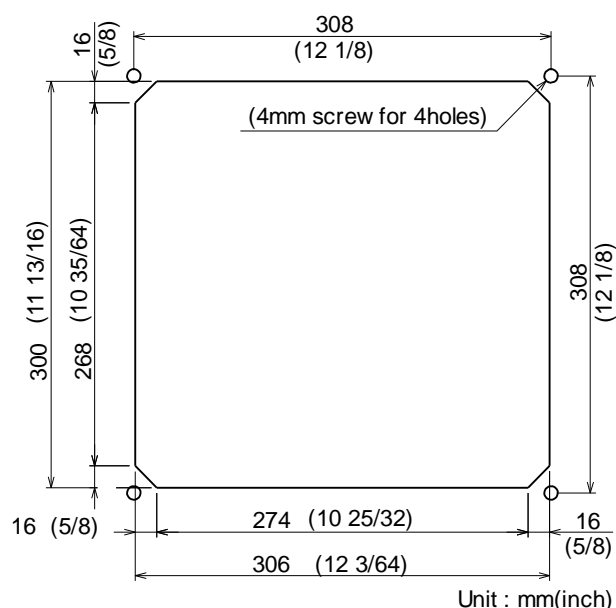

Figure 3.8 The opening and nut-holes for Display unit
- (1) Cut an opening and drill 4.5 mm (in the case of fixed nut) four nut-holes with the size shown in Figure 3.8, on the side for attachment of a Display unit on a panel.
- (2) Unscrew two knob bolts that hold the Display unit to the mounting bracket.
- (3) Remove the Display unit from the mounting platform and put it on a level place.
- (4) Detach four corner guard caps.